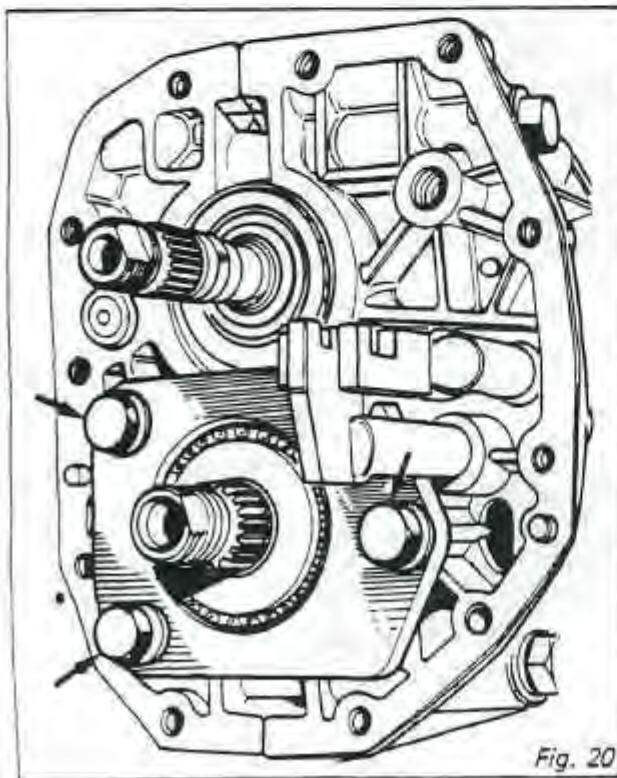

Fig. 20
17. Install the double taper roller bearing retaining plate and torque bolts. (Fig. 20)